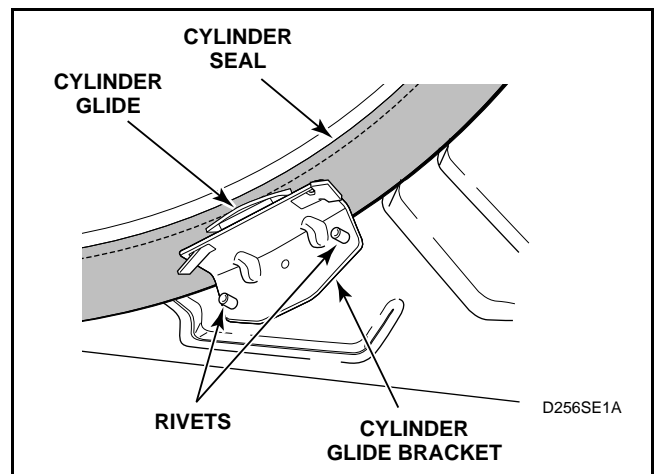

Figure 49
- Cylinder Glides and Glide Bracket.** See *Figure 49*.